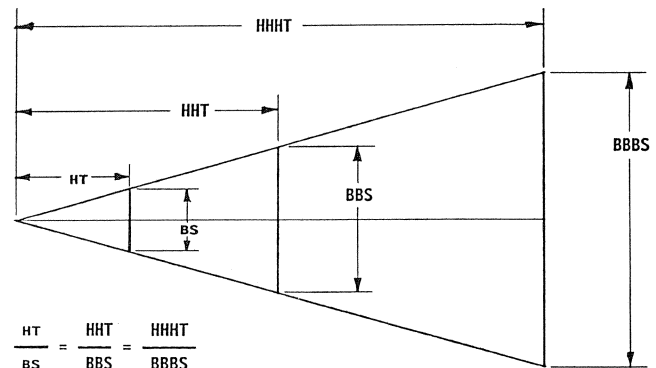

Figure 38. Base-to-Height Relationship in Scalene Triangle.
There are three methods to calculate the amount of shims required at the inboard (IB) and outboard (OB) feet of the movable pieces of equipment. *Inboard is defined as the position closest to the shaft coupling hub, and outboard as the position farthest from the coupling hub.* All alignment calculations are based on height-to-base relationship of a scalene triangle, as illustrated in Figure 38. The point of the triangle represents the location of the dial indicator on the fixed coupling hub for a reverse indicator setup. The distance, HT, is the location of the indicator on the movable coupling hub and the vertical distance, BS, defines the slope of the triangle's sides. HHT and HHHT are the locations for the inboard and outboard shims, respectively. Shim changes can be deter-